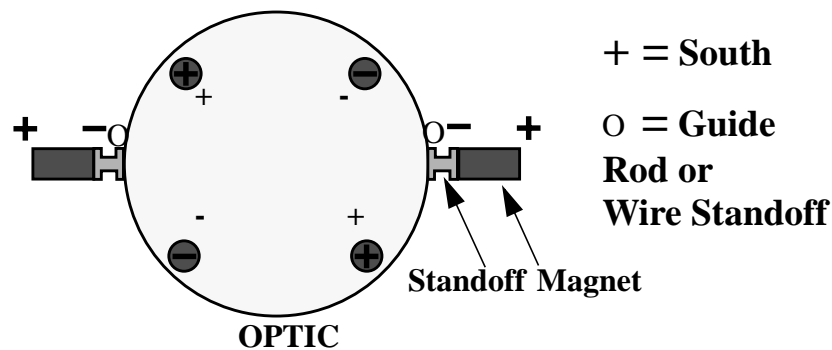

Fig. 1. Configuration of the magnet/standoff assembly as viewed from the back side (AR surface).
15. Prepare the Grippers with Magnets: Insert the magnets into the grippers, magnet first, leaving the dumbbell standoff protruding from the end. Lay the grippers out in such a way so that you keep track of which gripper holds which type of magnet (N or S). Make sure that each magnet /dumbbell standoff are inserted into the grippers equal amounts. (In other words, don't have one magnet /dumbbell standoff sticking out of the gripper further than another set.) See Figure 1 below for polarity layout. The magnets are placed so that polarities of the magnets alternate; this is to prevent the mass from being shaken in position and orientation, by time-varying ambient magnetic fields.